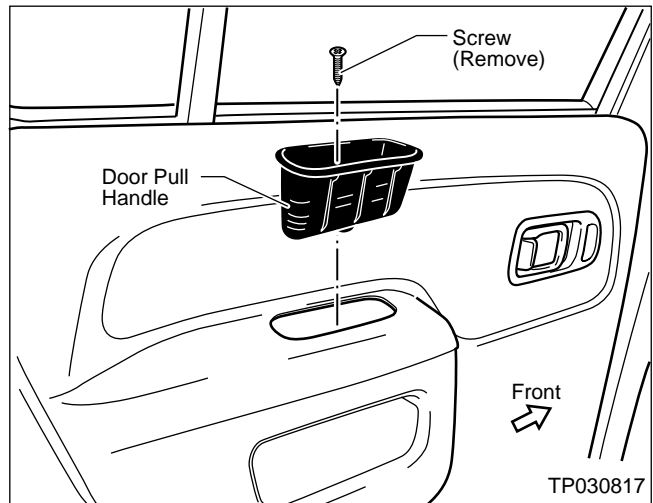

Figure 39
1. Take out the screw and remove the Door Pull Handle (see Figure 39).